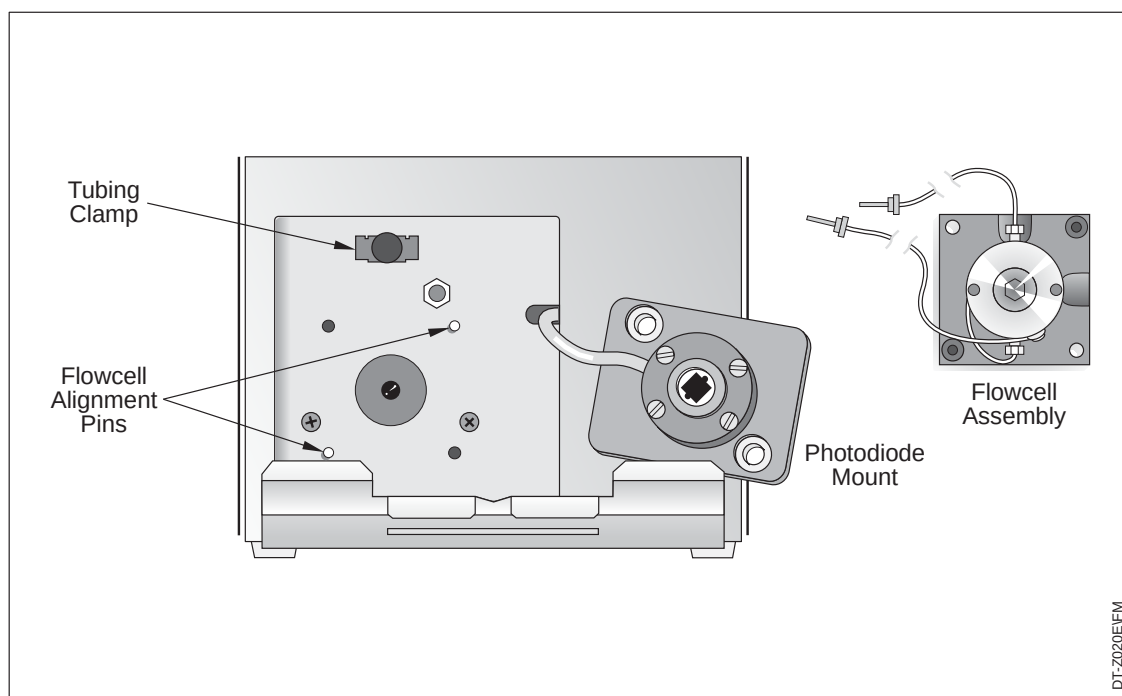

Figure 3.3 Installing the flowcell assembly
1. With the inlet tube on the bottom, slide the flowcell assembly onto the alignment pins (Figure 3.3) and securely fasten it in place with the two thumbscrews.